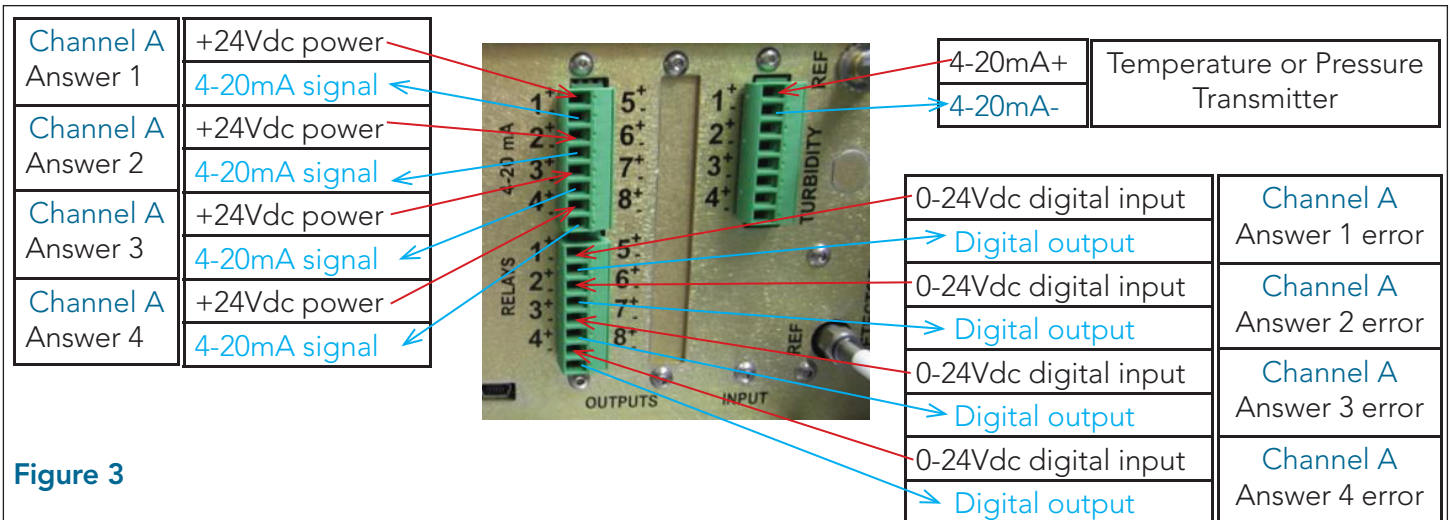

Figure 3
**For analog I/O and relays** connect as shown in Figure 3. For additional Answers or Channels see Appendix C in the manual.